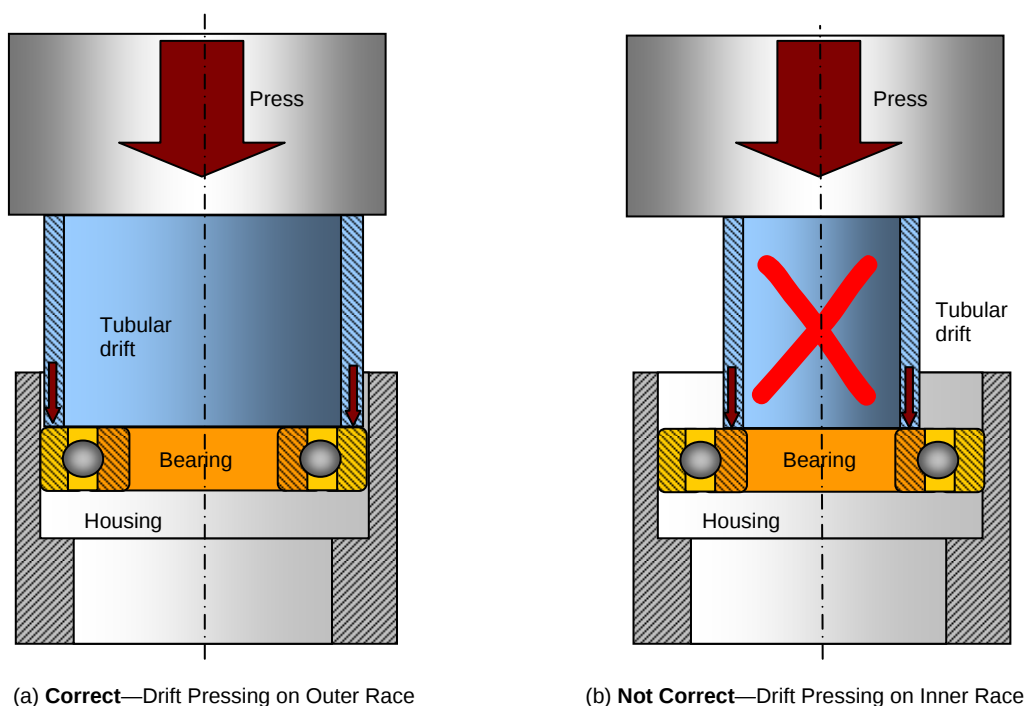
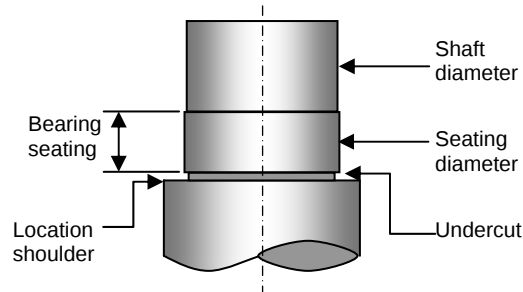

Figure 6.27: Bearing with Outer Race an Interference Fit in the Housing
Figure 6.29: Shaft Features
The correct and incorrect use of a drift to press-fit an anti-friction bearing into its housing is shown in **Figure 6.27**.
Figure 6.27 shows some important features of a shaft designed to take an anti-friction bearing. These are labelled in **Figure 6.29** and described below.
- Location shoulder—an axial location for the bearing. This can be on the shaft as shown in **Figures 6.29** and **6.28** or in the housing, as shown in **Figure 6.27**.